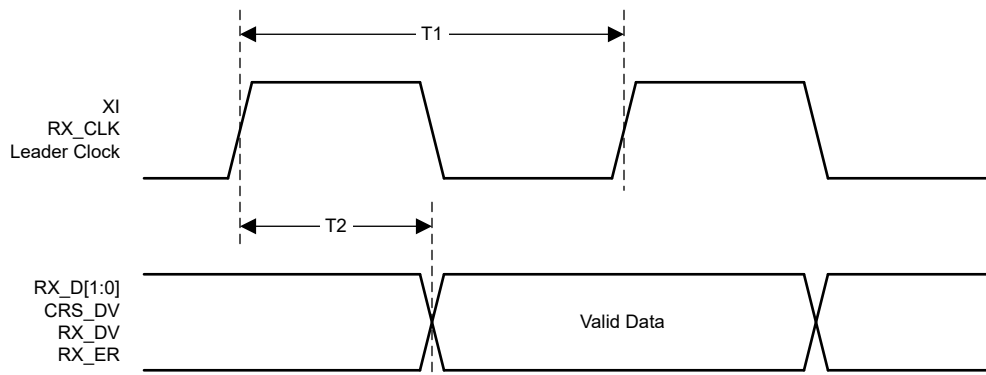

Figure 6-10. RMII Receive Timing
- (1) Specified by production test, characterization, or design.
(2) See Figure 6-10.